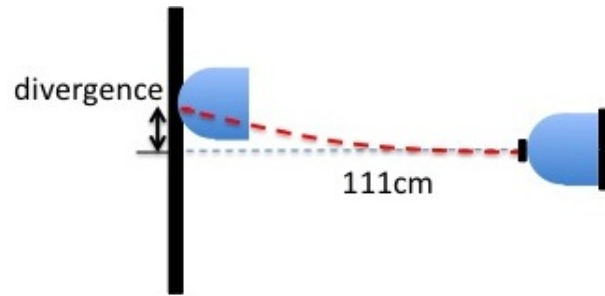

Figure 28: Setup for measuring divergence per unit distance.
4. Using black tape, demarcate a start and finish line on the table, such that the lines are parallel, and exactly 111cm apart. The robot itself is 11cm deep, so when its rear is placed on the start line, it will need to travel exactly 1m (100cm) before stopping. Note: The finish line should be about 30cm to 50cm long. Using a straight edge and two small pieces of tape mark two points, representing a straight line that is perpendicular to the start and finish lines. (See Figure 28.) The first point should be on the finish line. The second, should be 11cm from the start line, when the nose of the robot will be when the rear of the robot is aligned with the start line. Note: the tape marks should be as small as possible.